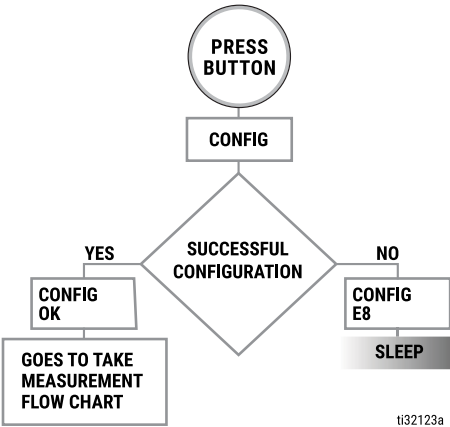

FIG. 4
- 5. Press the Display button (A) again to configure the TLM with a new profile.
- 6. CONFIG OK displays, as shown in FIG. 4, page 6, after the TLM is configured with the new profile.
If the TLM does not configure with a new profile by the Pulse software, the error message CONFIG E8 displays see FIG. 4.